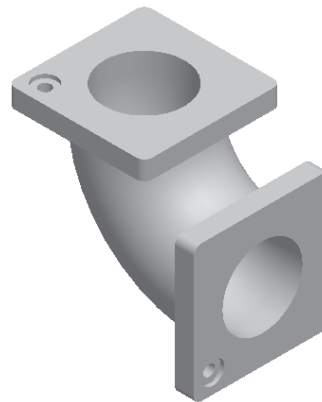

Figure 8-96 One hole each on the two extruded features
10. Create another hole on the fourth feature using the same procedure as discussed above. The default trimetric view of the model that is completed until now is shown in Figure 8-96.